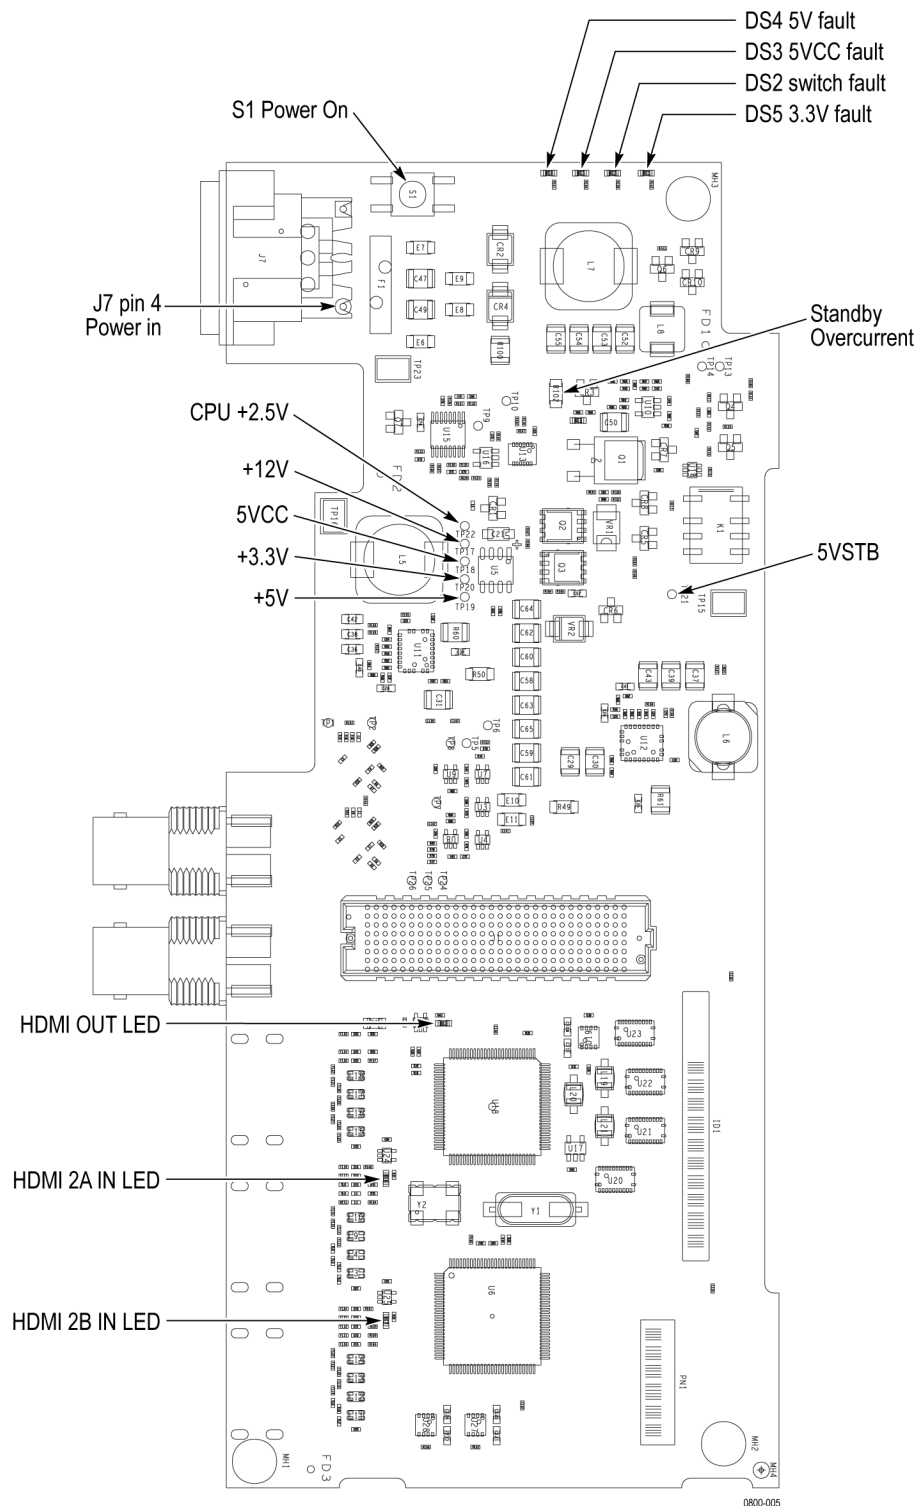

Figure 2: Video I/O board
Remove the Reference I/O and FPGA boards to gain access to the Video I/O board power test points. Locate the +12V, +5V and +3.3V test points on the Video I/O board. (See Figure 2.) Measure the voltages with a DVM and check against the allowable ranges. (See Table 5.) If the voltages are outside of the allowed range, replace the Video I/O board. If voltages are within the allowed range, replace the CPU board.
4. Verify that the red LED labeled HDMI Input A turns on. (See Figure 2.) If it does not turn on, replace the Video I/O Board.